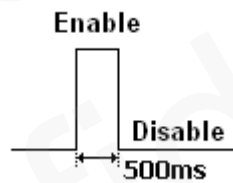
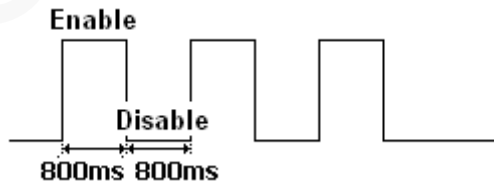
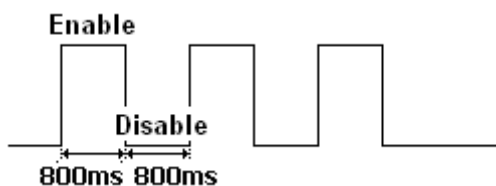

Figure 3: Wave Shape 2
Figure 4: Wave Shape 3
Figure 5: Wave Shape 4
- ✧ <Duration>: Please refer to **Figure 2, Figure 3, Figure 4** and **Figure 5**. Unit: 100ms.
- ✧ <Toggle Times>: Please refer to **Figure 2, Figure 3, Figure 4** and **Figure 5**.